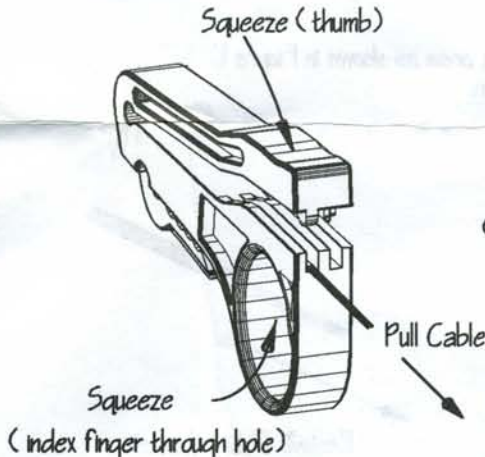

Figure 3
4. Insert approximately 1 inch (25mm) of an adjoined twisted-pair into slot 1 (no blade) as shown in Figures 3 & 4. Squeeze the tool closed using thumb and index finger. While clamping the pair between twists, pull the cable and tool in opposite directions. This operation removes the twists from the pair; however, it may be necessary to completely straighten the last twist by hand prior to separation.